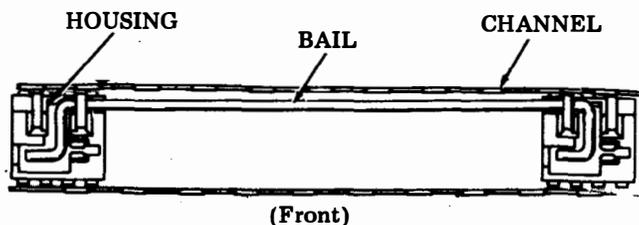

Fig. 7—Wire Bail and Housing Assembly
- (b) Snap the two spacebar housings into the keyboard channel. See Fig. 7. Make sure the four tines of the channel engage the notches in the spacebar housing.